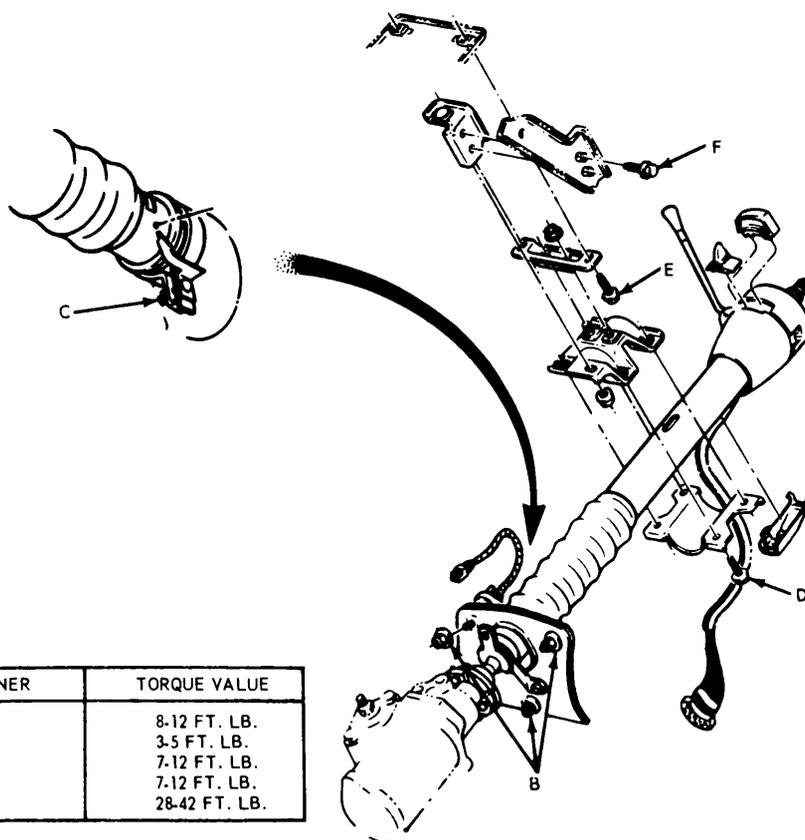

Fig. 1—Steering Column Alignment Locations and Torque Specifications
1. Loosen the nuts retaining the toe plate (column retainer) to the dash panel (B in Fig. 1).
2. Loosen to fingertight the bolt and nut located on the toe plate retaining clamp (C in Fig. 1).
4. Loosen to fingertight the bolts that support the column and bracket against the instrument panel (D in Fig. 1).
5. Loosen to fingertight the bolts or nuts which retain the column brackets to the brake pedal support bracket (E).
6. Loosen to fingertight the bolt which controls lateral adjustment of the steering column (F in Fig. 1).
10. Tighten to a snug fit (approximately 2-3 ft-lb) the nuts retaining the toe plates to the dash panel (B in Fig. 1).
12. Tighten all nuts and bolts (noted as C, D and E in Fig. 1) in the passenger compartment to a snug fit (approximately 2-3 ft-lb). Again check aligning spacer for looseness. Perform these tightening operations in alphabetical order.
13. Tighten the lateral adjustment bolt (F in Fig. 1) to snug fit. Again check the aligning spacer for looseness.
14. Tighten all bolts and nuts to the proper torque value (listed in Fig. 1) in alphabetical order.